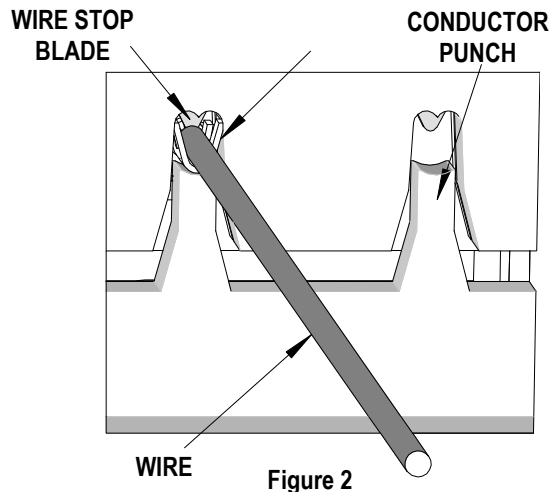

Figure 2
- While holding the locator against the hand tool insert the proper wire size into the terminal. See Figure 2.